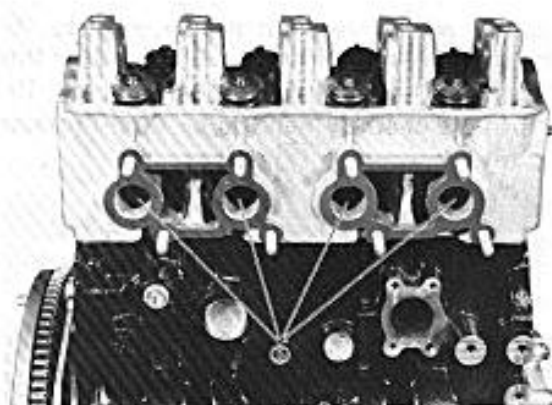

Fig. 3-125
The position the cylinder head takes on the block is but one, which is shown in Fig. 3-125. When placing the head on the block, be sure that it is correctly oriented: the clue is the inlet ports ⑤.